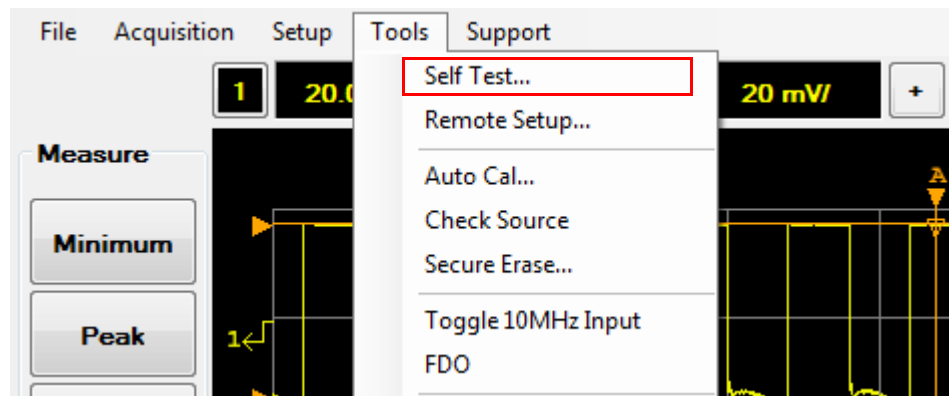

Figure 3-1 Self Test... selection in the Tools menu
- 1 Select **Tools > Self Test...** on the toolbar as shown in Figure 3-1.